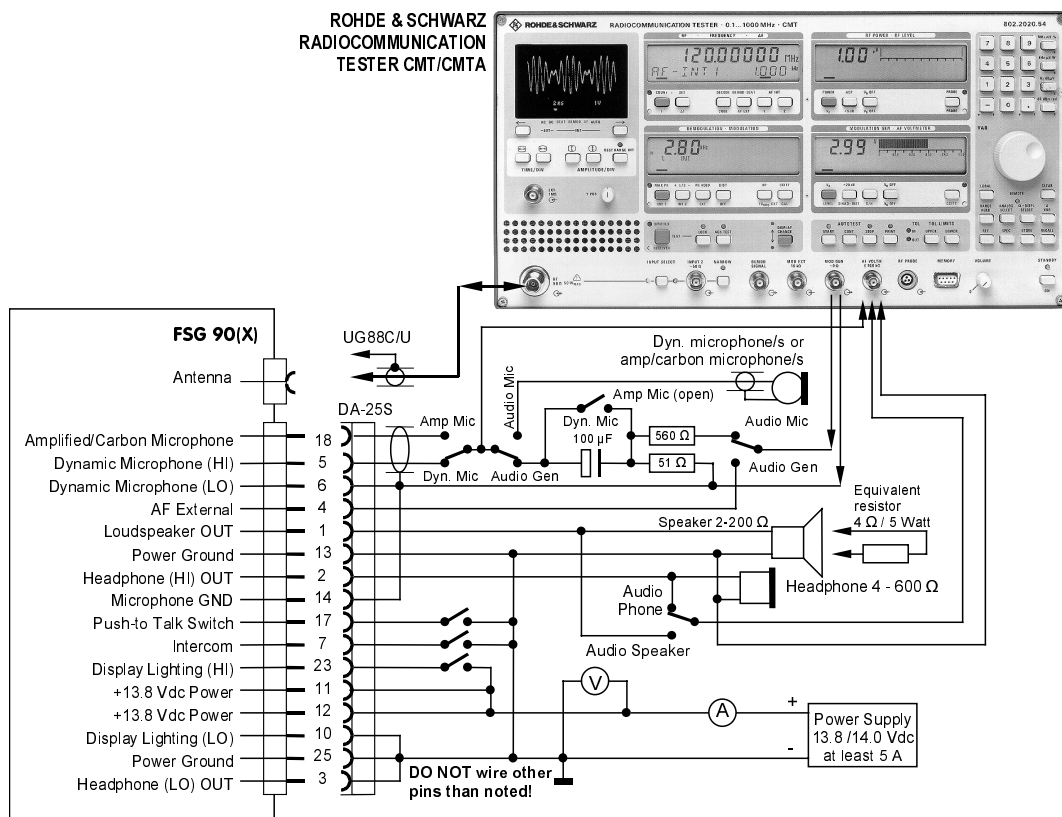

Fig. 3-1: FSG 90 System
- Interconnect the radio with a test wiring harness (according to figure 3-1) to the test bench setup. For **FSG 90** set supply to 13.8 Vdc at radio input terminals. For **FSG 90-H1** set supply to 14.0 Vdc at radio input terminals. Turn ON the radio with the ON/OFF-VOL switch on front panel. Switch OFF the Squelch (push **SQ** button).